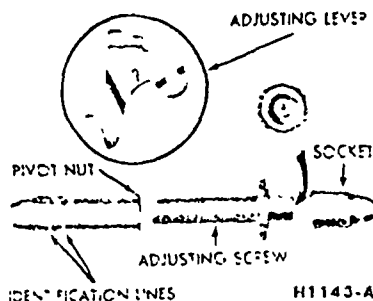

FIG. 8—Adjusting Screw and Lever Identification
Interchanging the brake shoe adjusting screw assemblies from one side of the car to the other would cause the brake shoes to retract rather than expand each time the automatic adjusting mechanism operated. To prevent installation on the wrong side of the car, the socket end of the adjusting screw is stamped with an R or L (Fig. 8). The adjusting pivot nuts can be distinguished by the number of lines machined around the body of the nut. Two lines indicate a right hand nut, one line indicates a left hand nut.
10. Hook the cable hook into the hole in the adjusting lever from the backing plate side. The adjusting levers are stamped with an R or L to indicate their installation on a right or left hand brake assembly (Fig. 8).